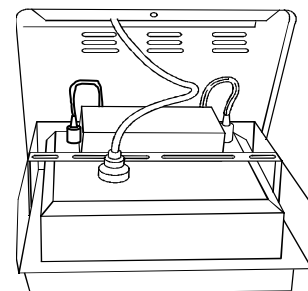

Fig. 4
4. Remove the cap on the port for taking out the recorder sensor and take out the recorder sensor. Then set the temperature recorder with the recorder fixing to the space for a temperature recorder. [Fig. 4]